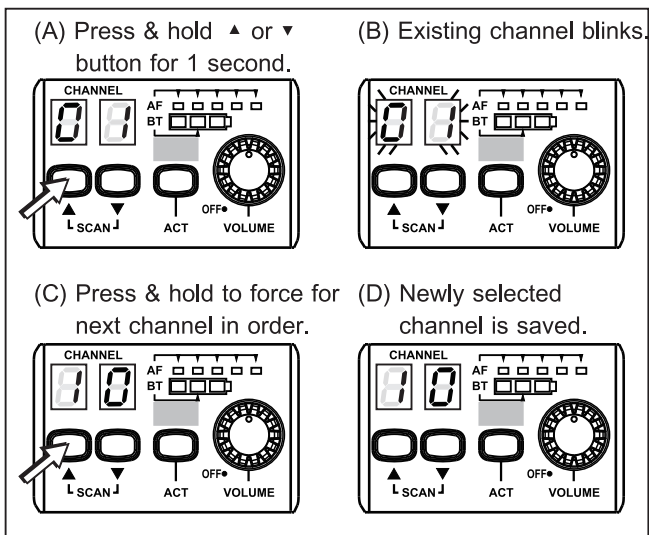

Fig. 3
2. Manually Search for a Receiver Channel: Press and hold up or down SCAN button **4** to perform a manual channel search. Existing channel **5** blinks to denote it is ready to accept parameter changes. During blinking, press and hold Channel button to force the channel to go forward to the next channel in order. Release Channel button until a desired channel is located. This new channel is now saved. If Channel button is not pressed within six blinks, it stops blinking and reverts back to the existing channel, Fig. 3.